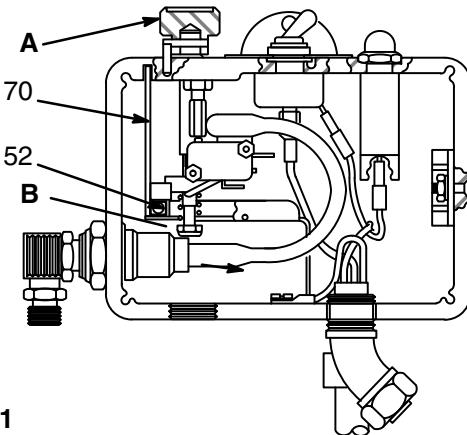

Fig 24-1
See Fig 24-1 and 24-2 for this procedure.
2. Turn the pressure control knob (A) to the minimum setting to release spring tension on the board. Check to be sure only three or four threads of the pressure control knob shaft are exposed below the pressure adjustment nut (B). Loosen the nut, if necessary. See Fig 24-1.